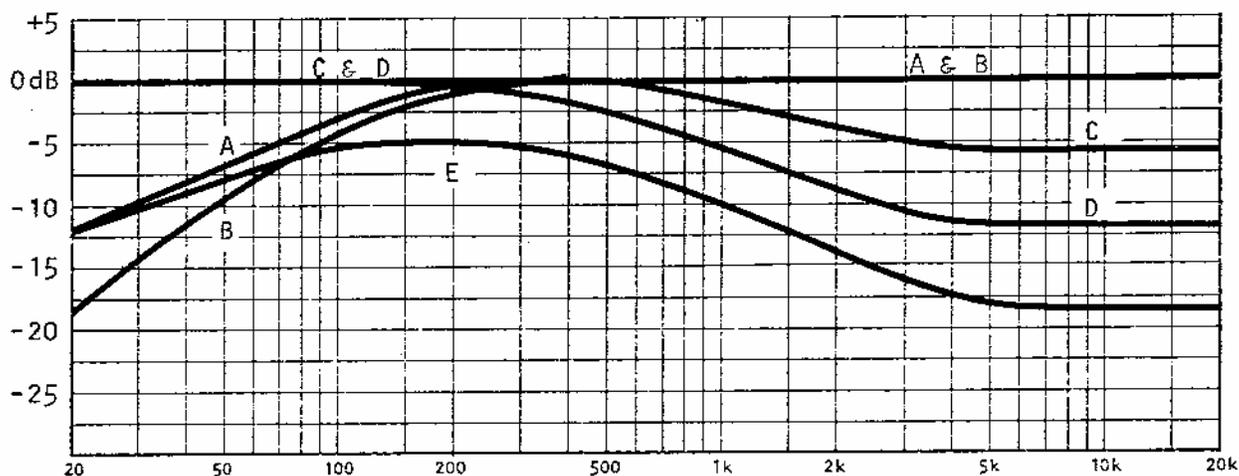

Fig. 1-1
**RUMBLE:** Choice of two LF rolloff curves (Fig. 1-1; A & B) with restoration to flat response when low frequency energy exceeds preset Threshold.
**HISS:** Choice of two HF "shelving" curves (Fig. 1-1; C & D) with restoration to flat response when high frequency energy exceeds preset Threshold.
**WIDEBAND NOISE:** LF + HF rolloff characteristic (Fig. 1-1; E) with restoration to flat response when energy in suppressed band exceeds preset Threshold.